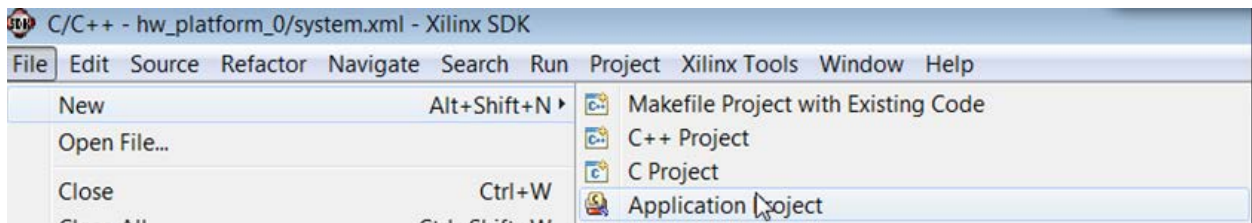

Figure 47: File >New > Application Project
4. Select **File > New > Application Project** (Figure 47).